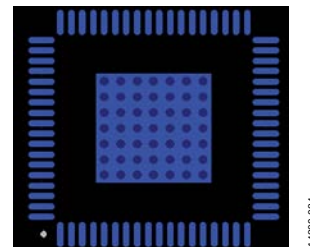

Figure 87. Exposed Pad Layout Example—Top View
- Place vias such that all layers of copper are connected, allowing for efficient heat and energy conductivity. For an example, see Figure 87, which shows 49 vias arranged in a 7 $\times$ 7 grid in the pad area.